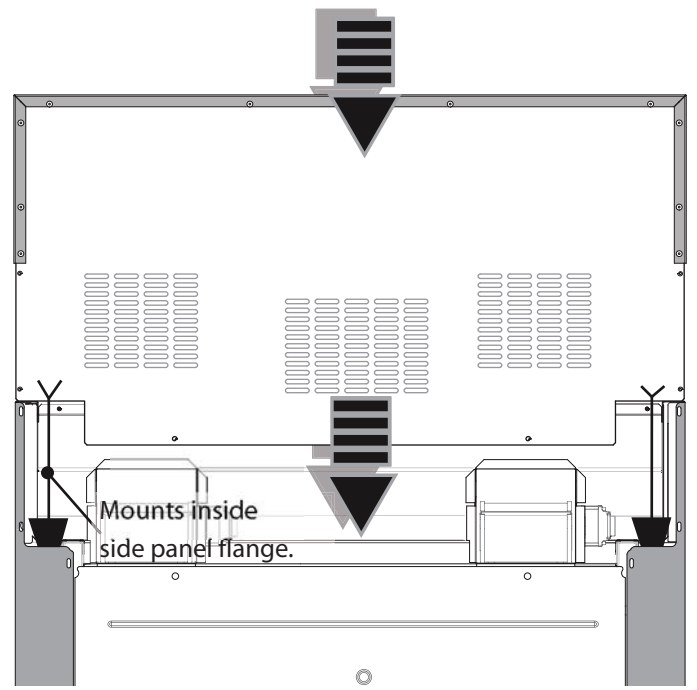

Figure 20: Backguard Installation
3. Align the back panel of the new accessory with the flanges on the range side panels right and left rear corners. The backguard is inserted inside the guide channels on the back of the range (Figure 20).